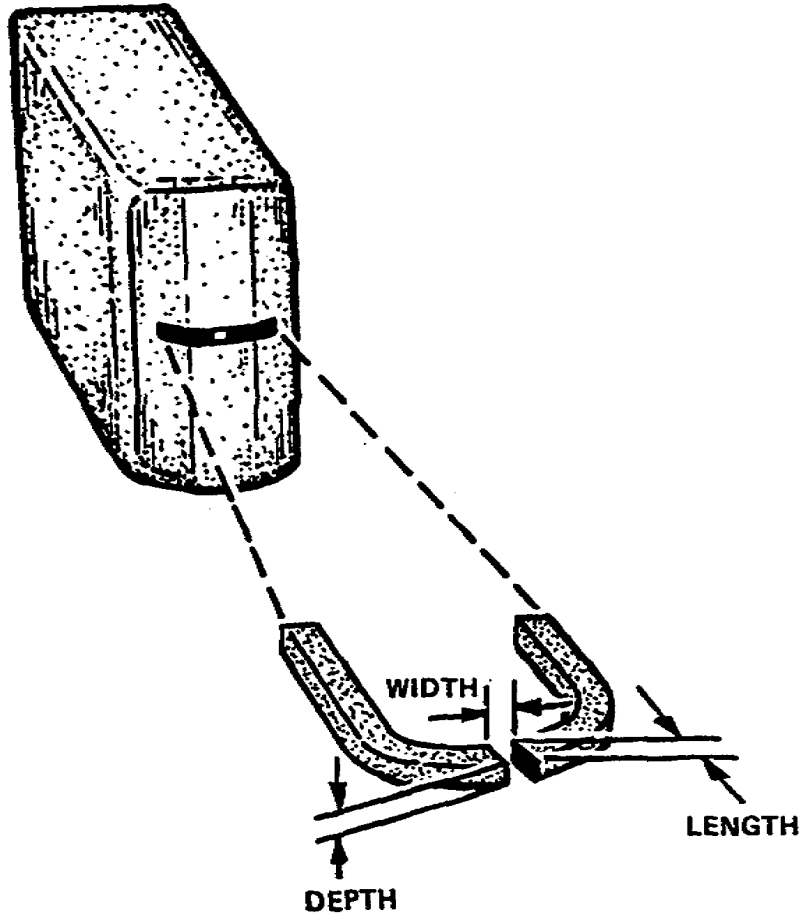

Figure 1-18. Control track record playback head showing width, depth and length measurement
3. Control track record/playback head. An electromagnetic head (fig 1-18) is designed for the audio-frequency range.